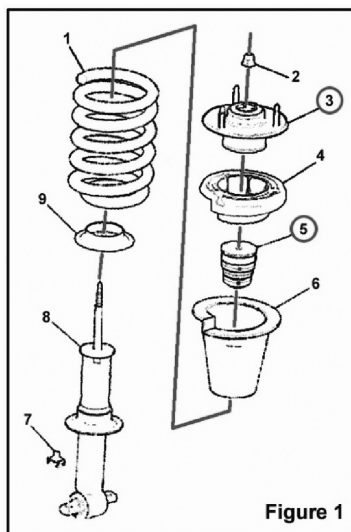

Figure 1
7. Remove the jounce bumper (5) from the top mount assembly (3) (Figure 1).